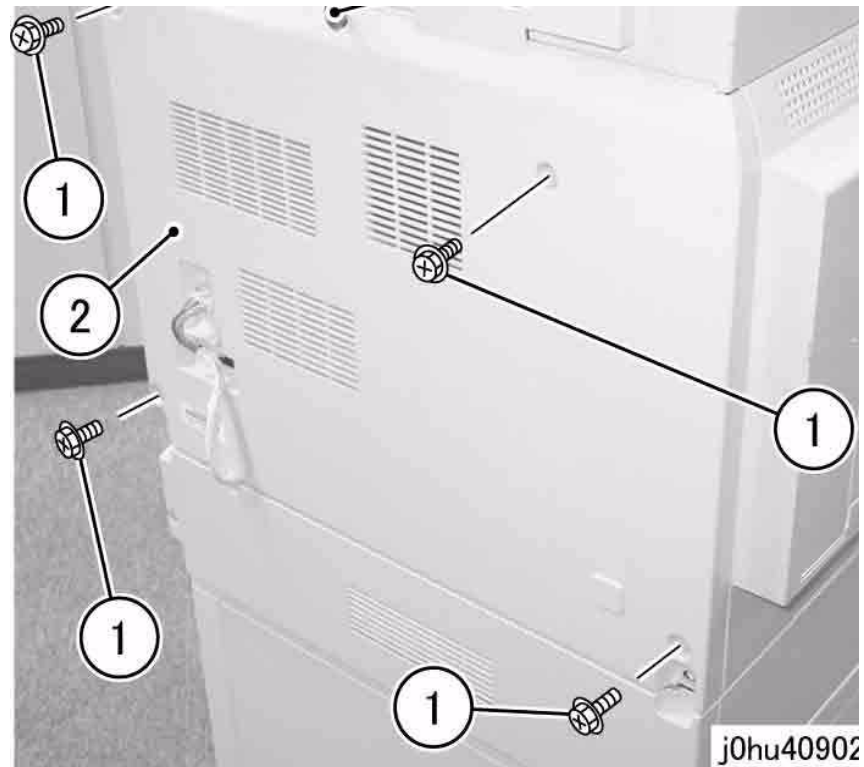

Figure 2 Remove Rear Cover
2. Remove the Rear Cover (Figure 2).